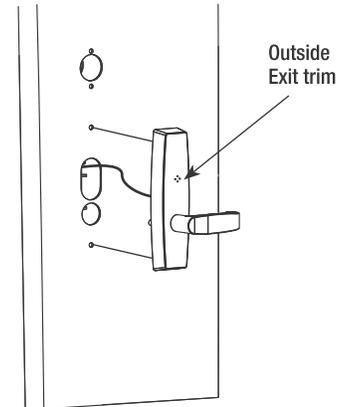

Fig. 3a
1. For exterior applications, use ET gasket to seal ET escutcheon and outside door surface (Fig. 3a).